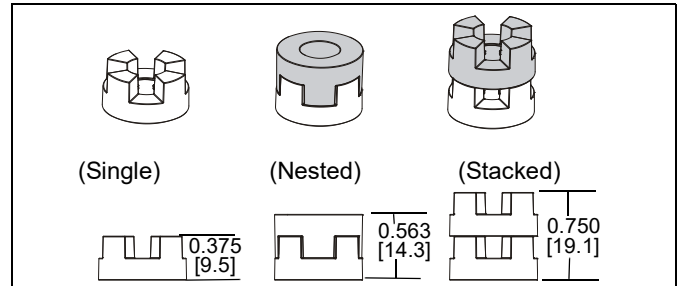

Figure 18
NOTE: The nesting spacers (PI) may be used separately, or put two together in different configurations to create different size spacers. (See Figure 18)